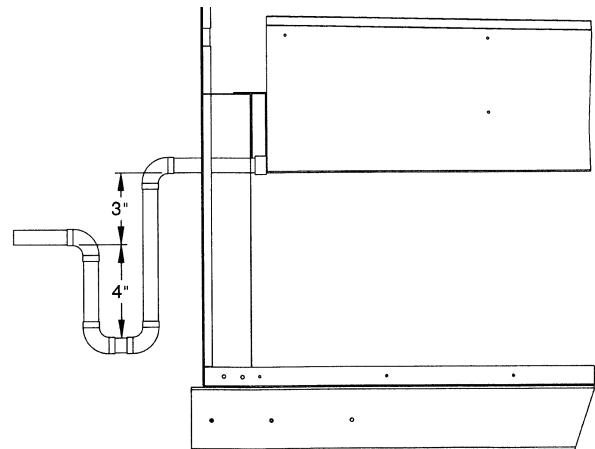

Fig. 22 — Condensate Drain Trap Piping Details
Step 6 — Trap Condensate Drain — See Fig. 5-16 for drain location. Condensate drain is open to atmosphere and must be trapped. Install a trapped drain at the drain location. One 1-in. FPT coupling is provided inside the unit evaporator section for condensate drain connection. A trap at least 4-in. deep must be used. See Fig. 22. Trap must be installed to prevent freeze-up.